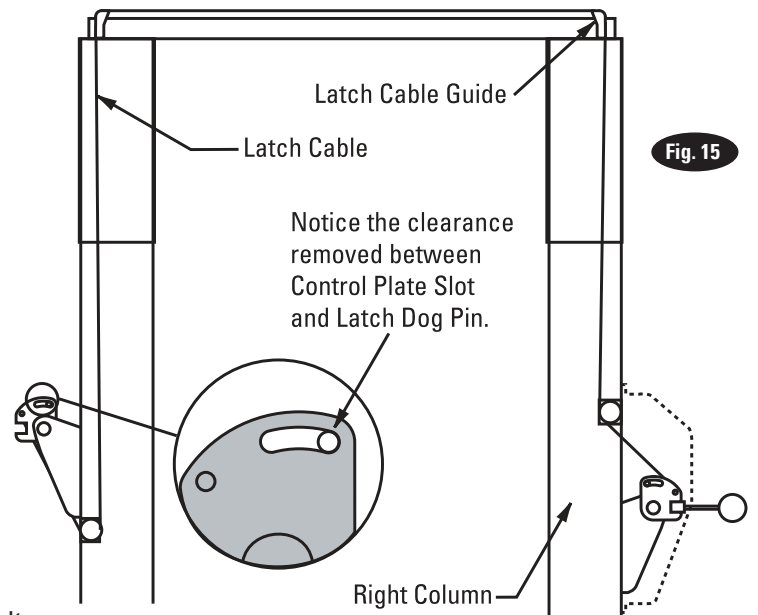
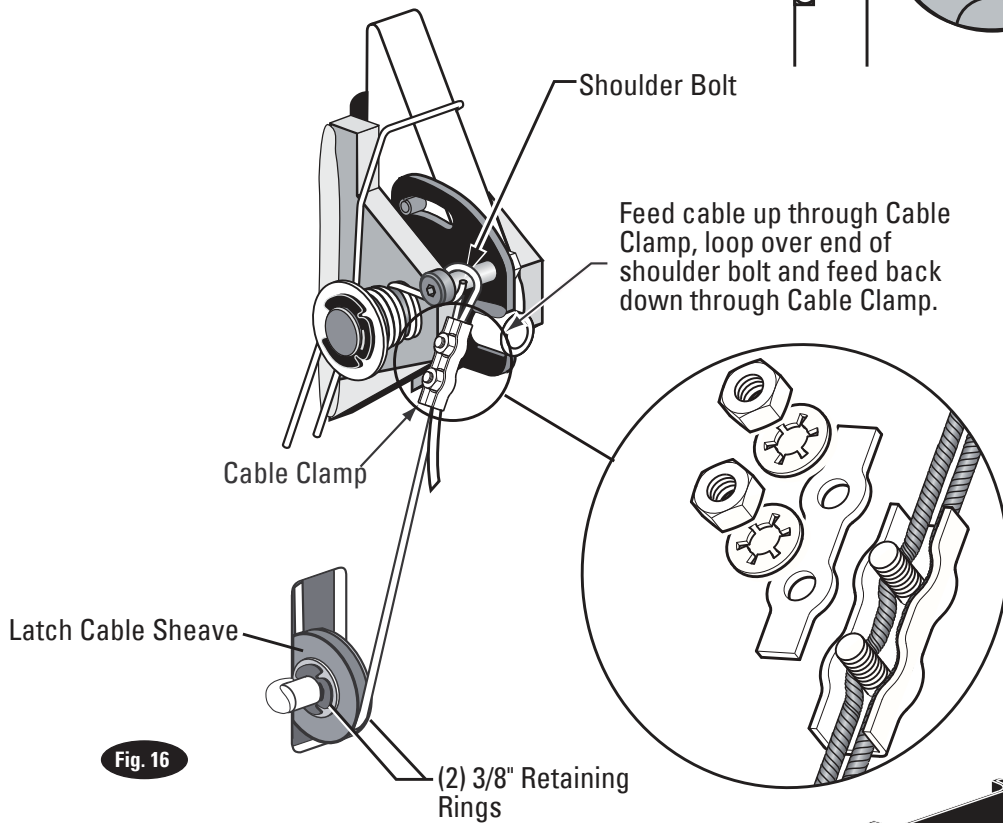

Fig. 15
Fig. 16
- F) Continue routing cable to the left column latch cable guide, routing the cable through the left column latch cable guide, Fig. 16.
- G) Bring the cable down inside the left column and feed the end of the cable through the lower latch cable sheave slot so that the cable is now back outside the column, Fig. 16.
- H) Route cable under the bottom side of the latch cable sheave, Fig. 16.
- J) Next, pull the control plate down, Fig. 15 & Fig. 16, to eliminate any clearance between the control plate slot and the latch dog pin, Fig. 15.